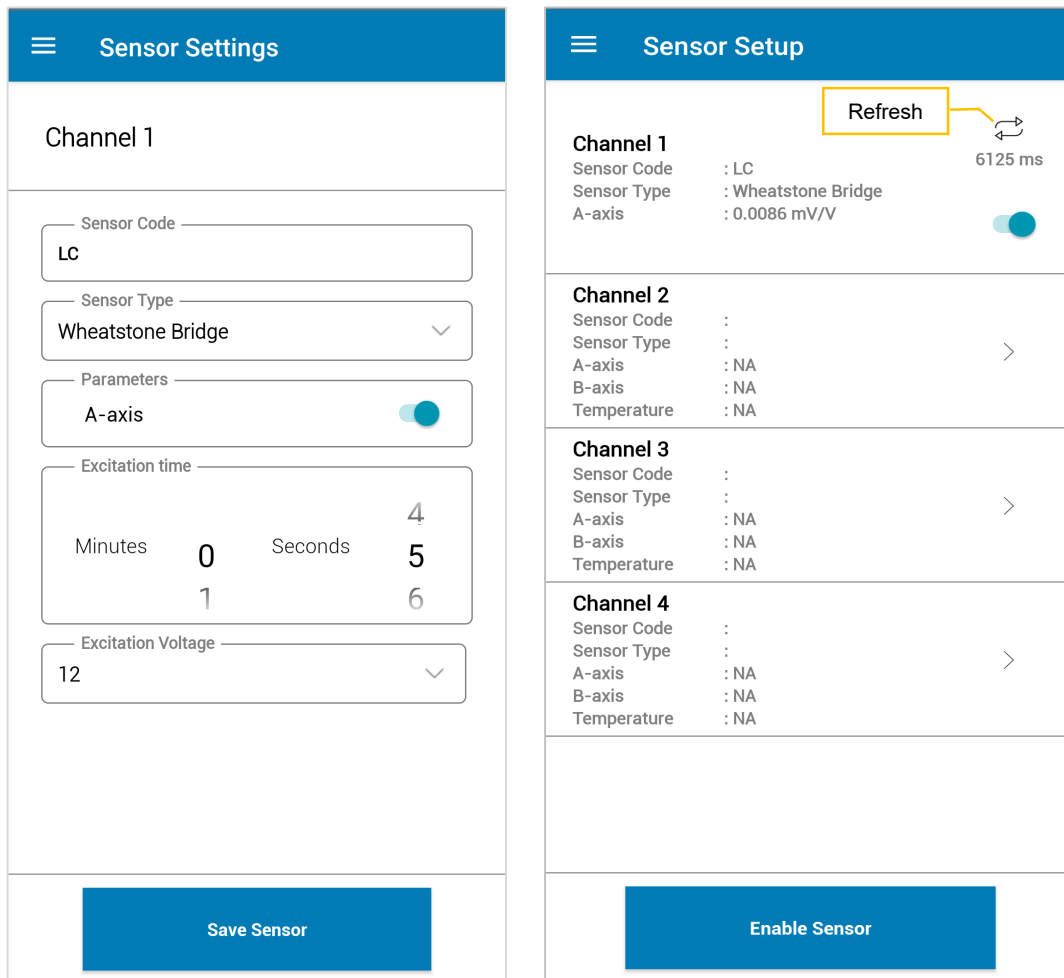

Figure 5-9
- Click on 'Save Sensor'. The Node will now read the configured sensor, displaying the sensor readings, as shown in figure 5-9 (right screenshot).
- To get another reading, click on the refresh button (shown in the right side screenshot in figure 5-9).